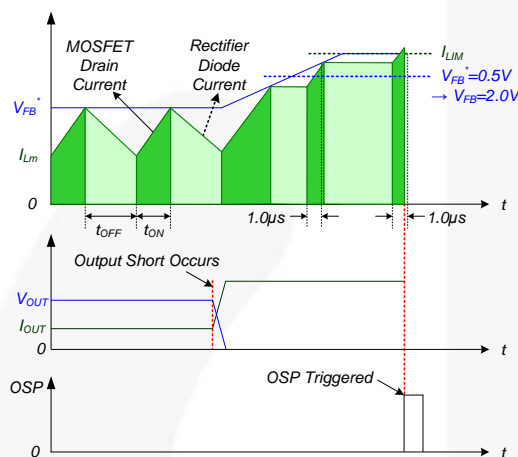

Figure 23. Output-Short Protection
4.3. Output-Short Protection (OSP): If the output is shorted, steep current with extremely high di/dt can flow through the SenseFET during the minimum turn-on time. Such a steep current creates high-voltage stress on the drain of the SenseFET when turned off. To protect the device from this abnormal condition, OSP is included. It is comprised of detecting V_{FB} and SenseFET turn-on time. When the V_{FB} is higher than 2.0 V and the SenseFET turn-on time is lower than 1.0 μ s, the FSL117MRIN recognizes this condition as an abnormal error and shuts down PWM switching until V_{CC} reaches V_{START} again. An abnormal condition output short is shown in Figure 23.